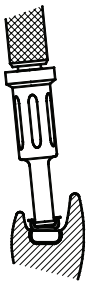

Fig. 8
- Use the Locator Male Removal Tool (attached to the Locator Core Tool, Zest order #8393) to remove the Black Processing Male from the metal denture cap. The sharp circular edge on the end of the removal tool should be wedged tightly down into the very bottom of the plastic male so that it will catch the inside of the black plastic insert and pull it at an angle out of the metal housing. (Fig. 8) To discard the nylon male from the new tip on the Core Tool, point the tool down and away from you and tighten the new Male Removal Tool clockwise back onto the Core Tool. This will activate the removal pin and dislodge the nylon male from the tip end of the Male Removal Tool.